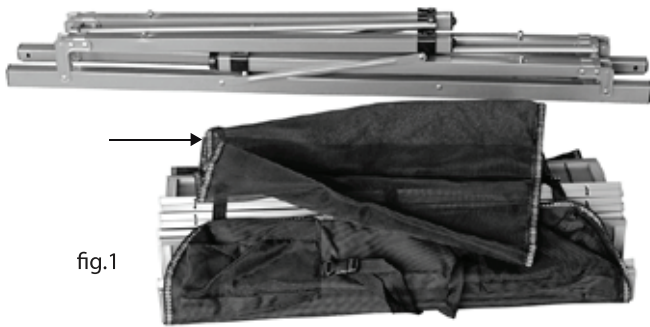

fig.1
1. Remove the table top and leg assembly from the carry bag. If attached, release the three buckles so that the storage mesh hangs free. See fig.1.